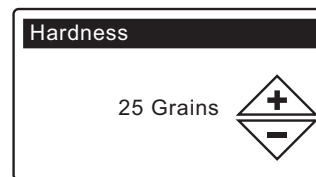

FIG. 16
7. **HARDNESS** Press the UP (▲) or DOWN (▼) buttons to set the value of your water's hardness (See Figure 16).